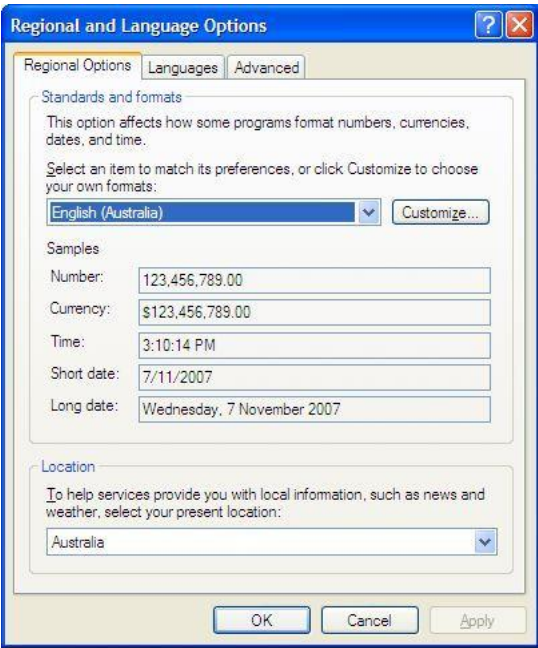

Figure 35 – Regional settings
3. Select "Serial Port" and the COM Port on the computer from those listed on the Firmware Update screen as shown in Figure 35.